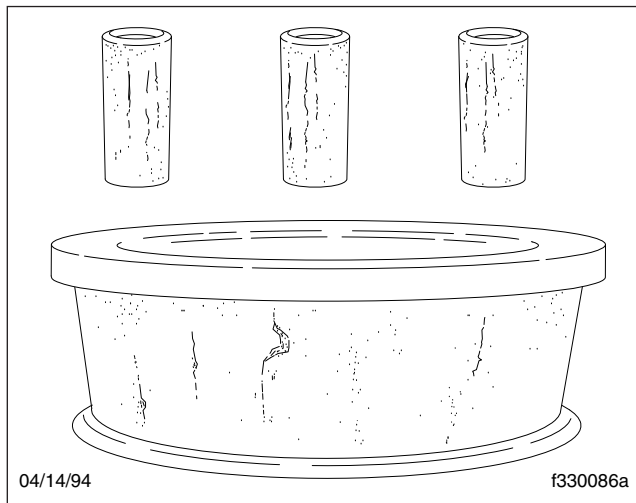

Fig. 7, Etching (Pitting) on Bearing Surfaces
- Etching or pitting on functioning surfaces. See Fig. 7.